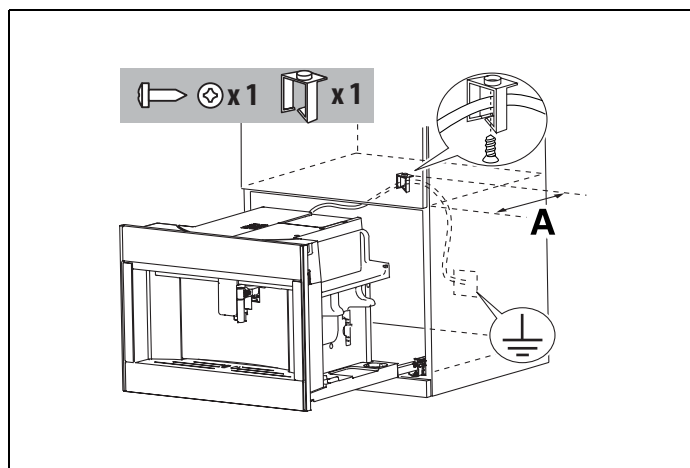

Fig. 6
- Fix the power cable with the clip (Fig. 6). The power cable must be long enough to allow the appliance to be extracted from the cabinet to fill the coffee bean container.